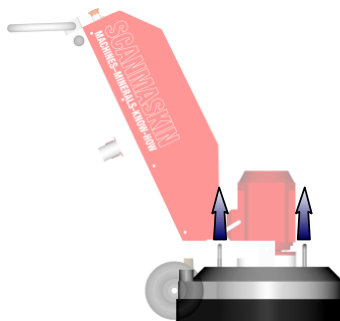

Figure 3-2 Lifting points SC 450 NS
- Fasten the straps used for lifting at the two handles as shown in “Lifting points SC 450 Figure 3-2”.